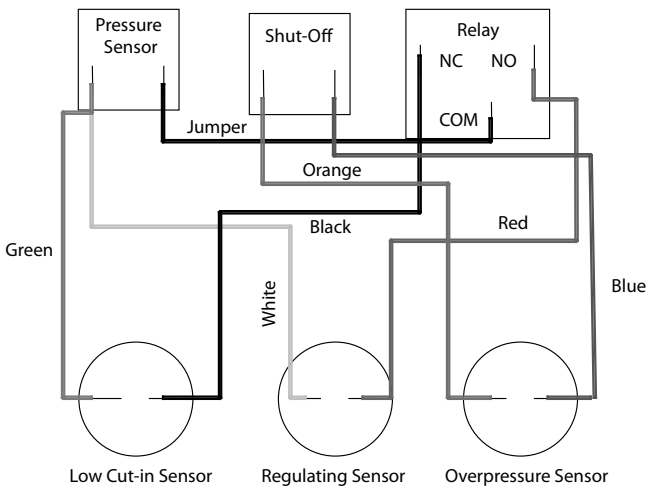

Figure 3: SubDrive300 Wiring
4. Use the supplied six conductor pressure sensor cables to attach the sensor cable to the sensor. (See Figure 3, pg 14, for wiring.)